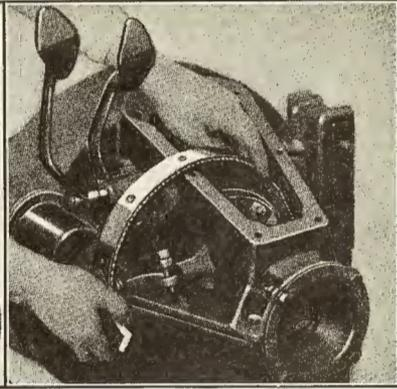
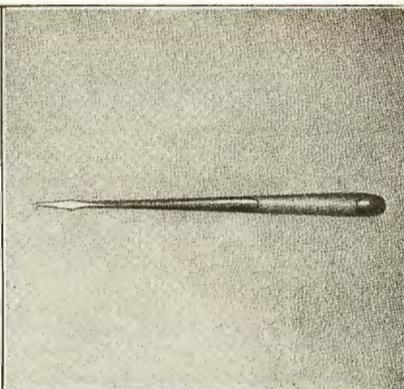

Fig. 311
Fig. 315
- 538 To replace the bands, insert end of band from which lug has been removed into right side of the transmission (See Fig. 311), forcing the band around until it is possible to reach the square hole with the hooked tool shown in Fig. 315. When the end of the band has
545 The only special tool actually required is the one shown in Fig. 315. It is made by bending over the end of a screw driver approximately one quarter of an inch and can easily be made in the dealer's shop.